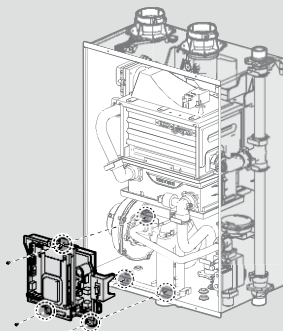

Figure 2. Screw Location
6. Loosen the three screws indicated in the figure. (Refer to Figure 2.)